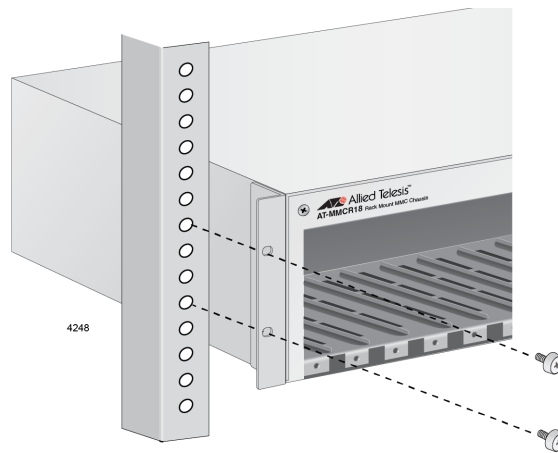

Figure 14. Installing the Chassis in a Rack
3. Mount the chassis on the rack with two screws on each side, as illustrated in Figure 14 on page 35.